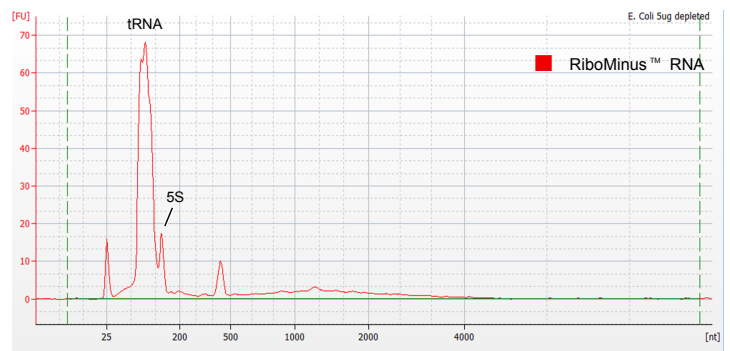

Fig. 3 Agilent™ RNA 6000 Pico Assay detailed trace of RiboMinus™ RNA shows absence of rRNA peaks.
- To verify the rRNA depletion, use a Bioanalyzer™ assay or perform agarose gel electrophoresis on the sample. The efficiency for RNA depletion in RiboMinus™ RNA, RNA degradation, and RNA concentration can be effectively analyzed using the Agilent™ 2100 Bioanalyzer™ with the Agilent™ RNA 6000 Pico Kit or the RNA 6000 Nano Kit (see Figure 2, Figure 3).